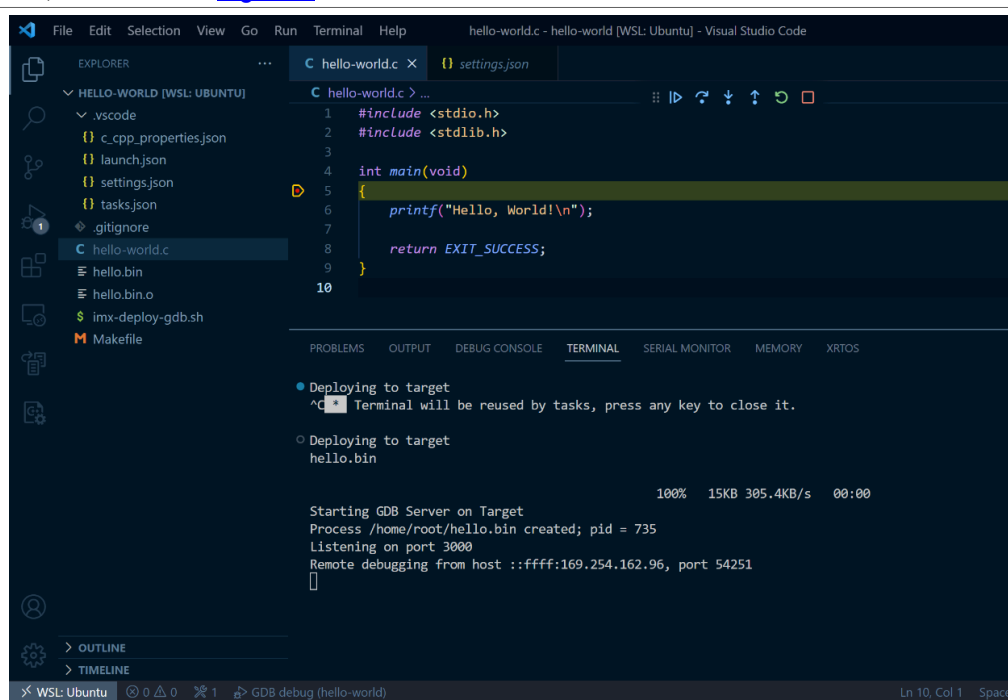

Figure 5. Demo application remote debugging session
- VS Code compiles the executable, sends it to the board and launches a debugging session that stops at the set breakpoint, as shown on Figure 5: